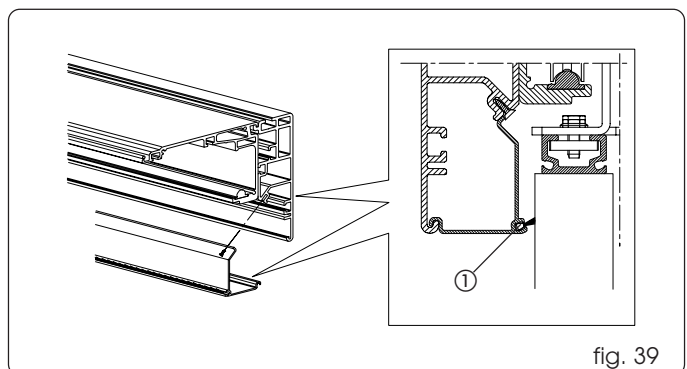

fig. 39
Install the closure profile for self-supporting automated systems as shown in fig. 39.
Insert the brush (if supplied) in the closure profile, before installing - fig. 39 ref. ①.